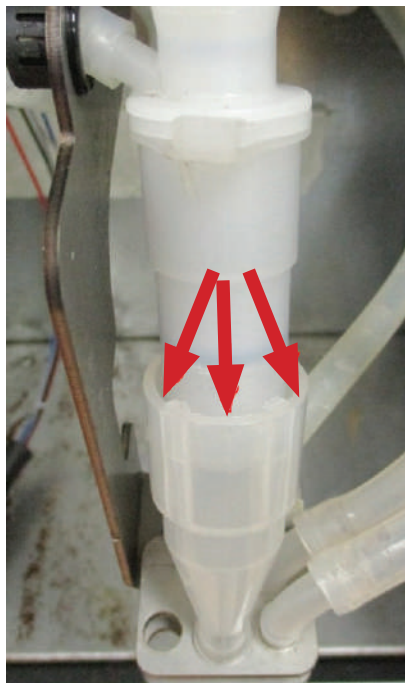

Fig.4.6
- At the cappuccinatore and the adapter joint there's a gap (see fig. 4.6). The foam shouldn't run out of the adapter during the operation.